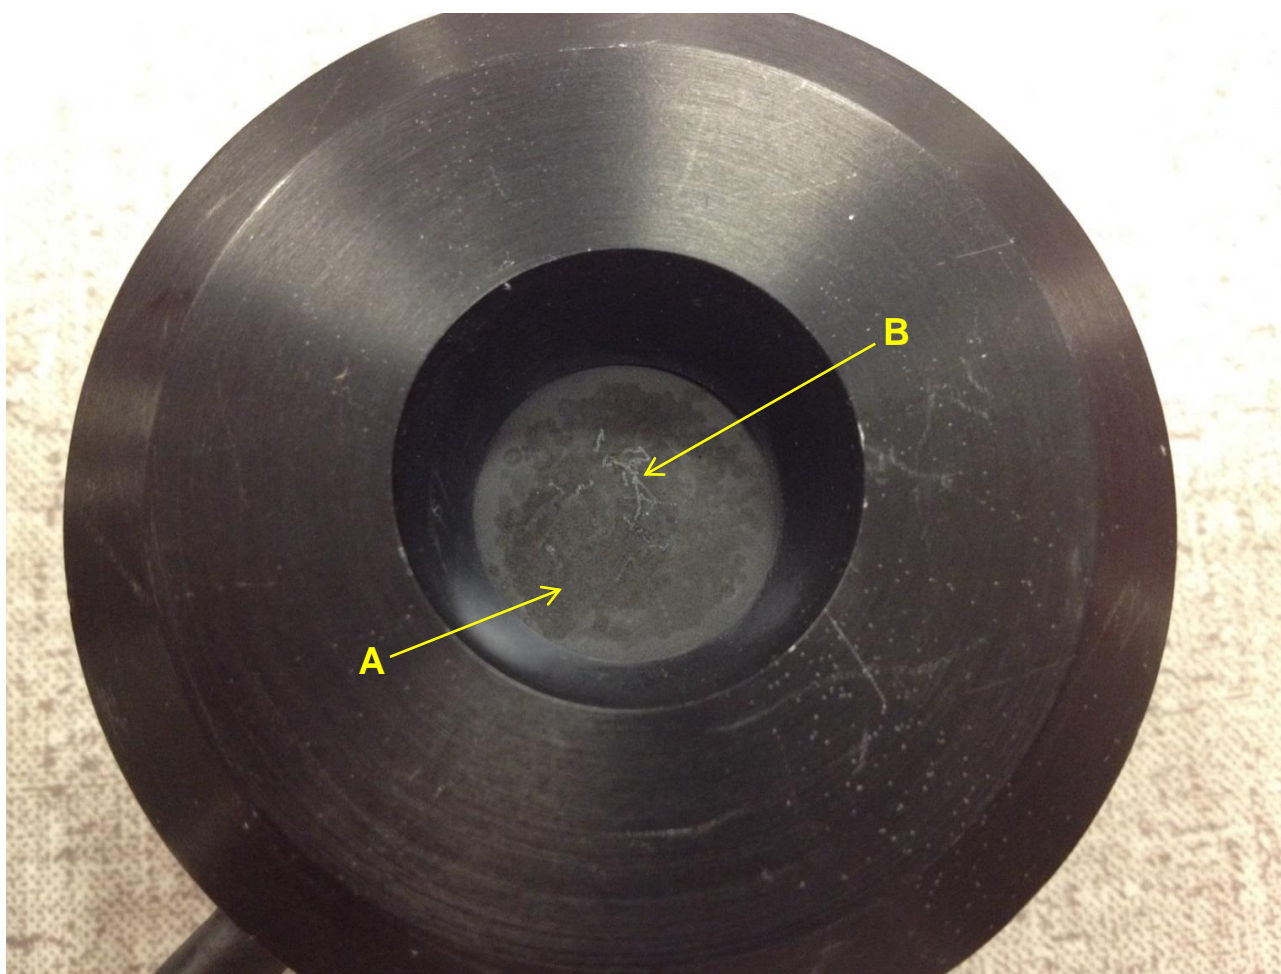

Figure 2: Discoloration and Scratches While Moving the Sensor during Measurement
- b. Figure 2: Discoloration and Scratches Caused by Moving the Sensor during Measurement